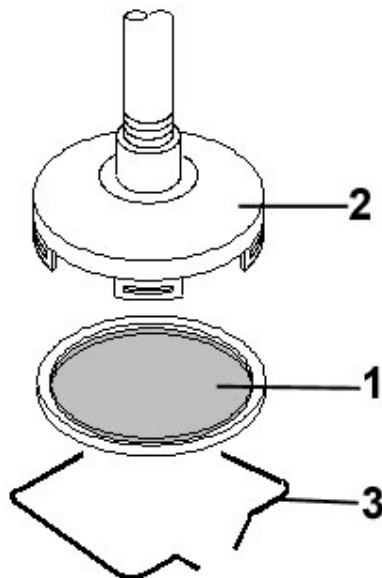

Fig.47
8) Remove the filter (fig. 47) placed at the end of the suction pipe by removing the fixing spring and clean it using a solvent.